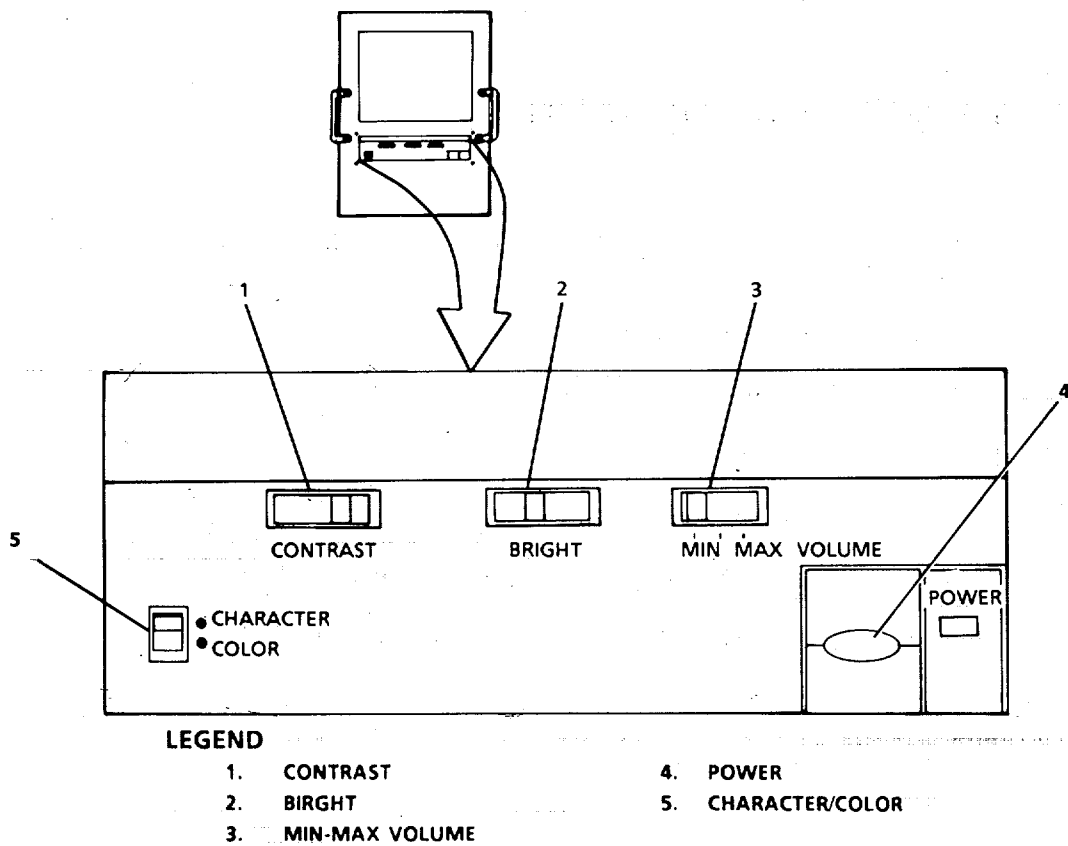

FIGURE 2-98. Machinery Plant Monitor Panel.
Machinery Plant Monitor Panel (FIGURE 2-98) controls are located under panel in bottom third of monitor.
- (15) On Machinery Plant Monitor Panel (FIGURE 2-98), push on-off POWER switch (4); adjust CONTRAST control (1), BRIGHT control (2) so readout is clear and readable, and MIN-MAX VOLUME control (3). Ensure CHARACTER/COLOR pushbutton (5) is up for color, or down for black and white.
- (a) Press + page (1) and - page (2) buttons simultaneously and hold until instructions appear on screen.
- (b) After 5 seconds PROGRAMMING MODE will appear on display (3) and menu will appear on Machinery Plant Monitor (FIGURE 2-98) screen.